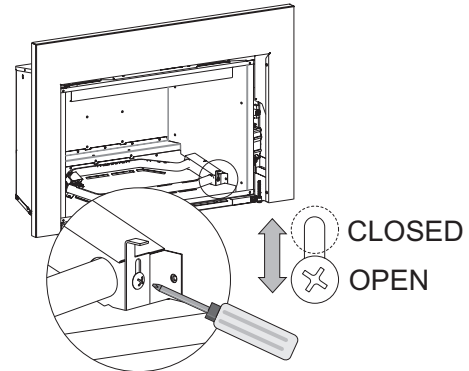

Figure 10 - Front Burner Air Shutter
10. Loosen the front air shutter screw and lower the air shutter until it stops. Then tighten the screw. **See Figure 10.**